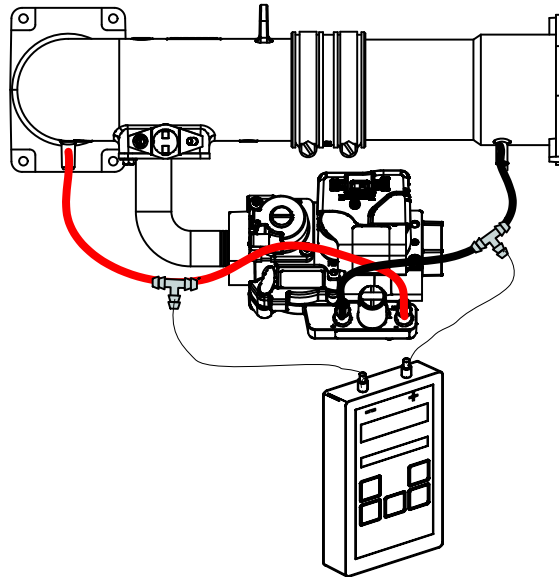

FIGURE 48
- 3 - Install hoses and meter as shown in figure 48 for signal pressure measurement.